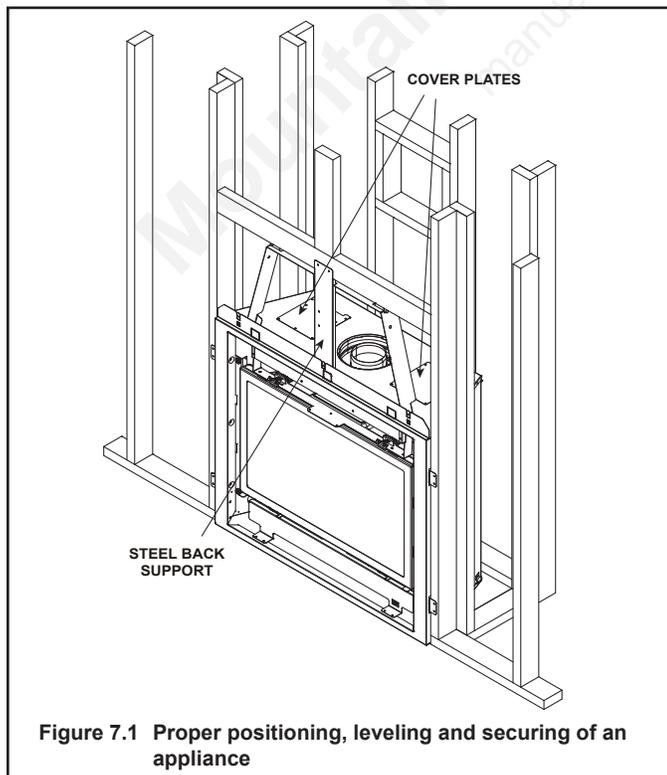

Figure 7.1 Proper positioning, leveling and securing of an appliance
1. Remove the cover plates from the top heat shield and top of the appliance and discard them (see Figure 7.1).
The diagram shows how to properly position, level, and secure the appliance (see Figure 7.1). Nailing tabs are provided to secure the appliance to the framing members.